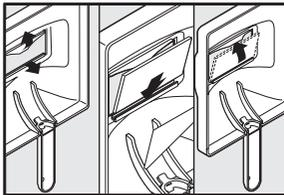

Figure 8
3. Insert filter lens exactly as shown in Figure 8.